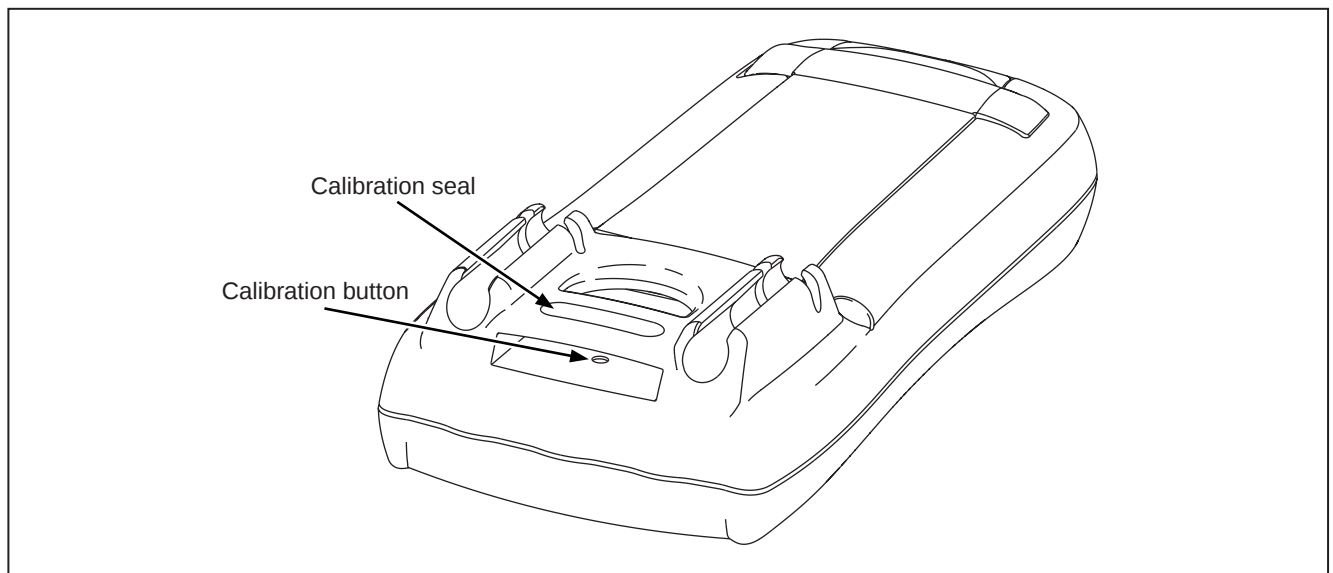

Figure 4. Calibration Access
- Turn the meter over and find the calibration seal located near the top of the meter. Refer to Figure 4.